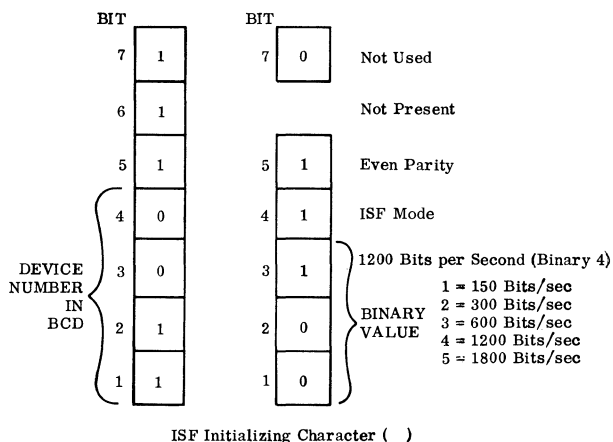

Figure 4 Initialization Character
Initialization consists of a WRITE CONTROL instruction (WRITE CONTROL, LA=3) followed by an initializing character taken from memory. The initializing character, as shown in Figure 4, sets the bit rate, parity, and operating mode.
*NOTE: When initializing for ISF operation (receiving) the bit rate and parity must set, as well as the ISF mode (Figure 4). Proper initializing for ISF operation is a WRITE CONTROL, LA=3 instruction followed by a < symbol (less than).*